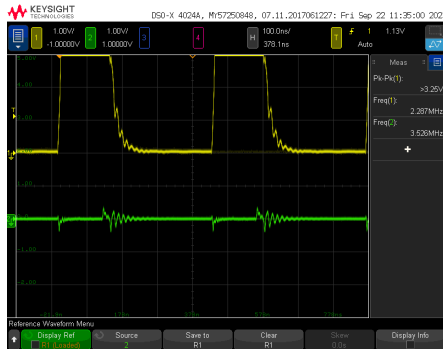

Figure 4: All IO's switching.
- In figure 4, we see the noise introduced is much more than before. The peak noise is around  $450mV$ .